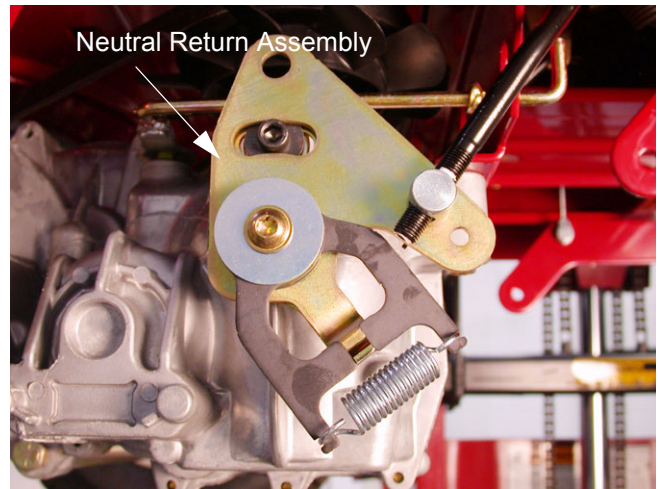

Figure 10.1
- 10.1. Begin to adjust the steering by confirming that both EZTs are correctly adjusted for neutral control. See Figure 10.1.